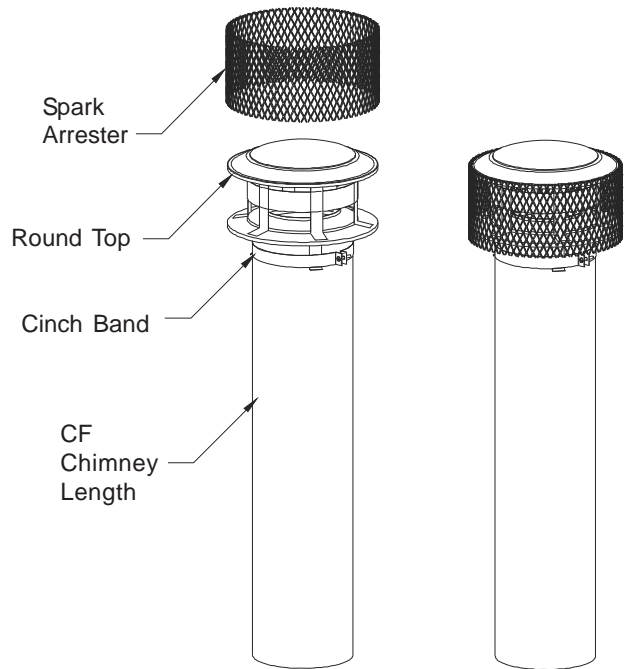

FIGURE 40
1. Place the pre-formed Spark Arrester directly over the dome and skirt of the Round Top (Figure 40).